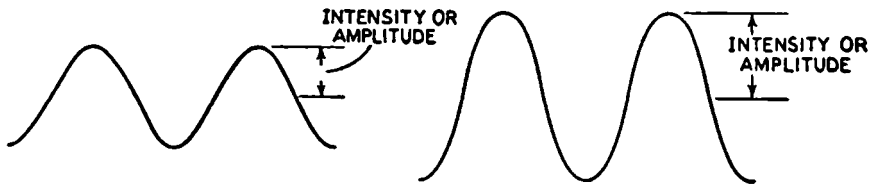

Fig. 1-4. Illustrating intensity of sound waves.
*Intensity.* Referring to Figure 1-4, we see that the intensity (sometimes called amplitude) is measured by the height of the wave at the crest. This illustration shows two waves having different intensities or amplitudes. For measuring and comparing sound intensities, a unit called the decibel has been devised. The decibel (abbreviated db) represents the change in pressure that is just discernible to the air.